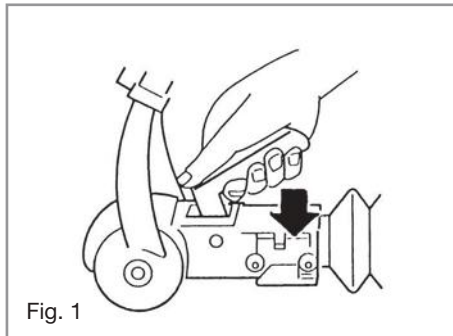

Fig. 1
- Using the coupling handle (which should be in the upright position), put the AKS on to the towball. Push the black handle down and check the green indicator button is showing. **(Fig. 1)**
Either: a) Pass the cable through the attachment point and clip it back on itself (Fig. 1)